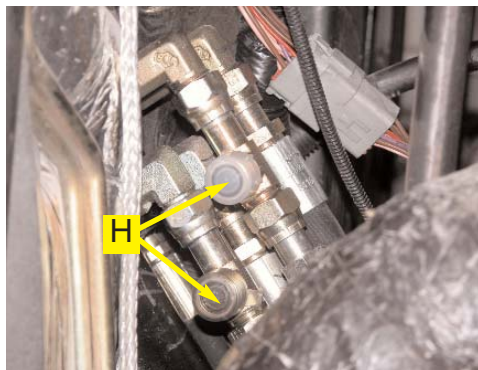
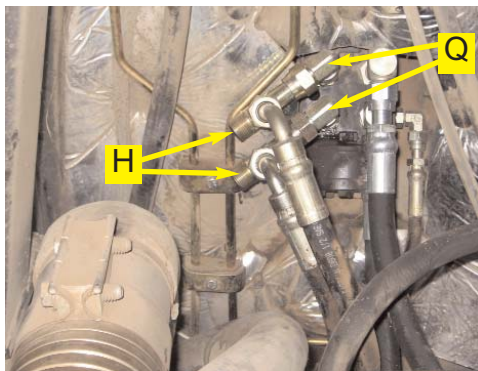

Figure 6c. Installed pressure and tank run tees.
Figure 6d. Installed pressure and tank run tees.
- b. The bottom right port on the steering orbital is the pressure port and the top right port is the tank port. Install the provided run tees (H) to the pressure and tank ports and reattach the lines to the ends of the run tees. (Figure 6c.) On tractor models equipped with elbow fittings on the hose ends you will need to use the provided elbow adapters (Q) to allow installation of the run tees as shown in Figure 6d.